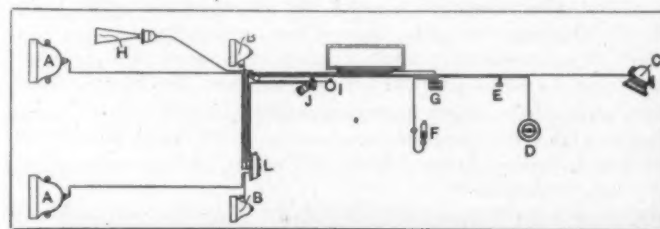

Fig. 5—Diagram showing method of wiring a car for electric lighting
1. Fig. 5 shows how the wiring should be carried out, with a central switch L on the dash. The battery M can be carried in a box on the running board, but of course it can be placed anywhere, although the position will depend upon the length of wiring. The different fittings—A, headlights; B, side lamps; H, electric horn; J, pillar light for lubricators and speedometer; F, cigar lighter; D, interior light; C, tail lamp—can all be run together, the inside lights being controlled by the switch E and the horn by switch I.